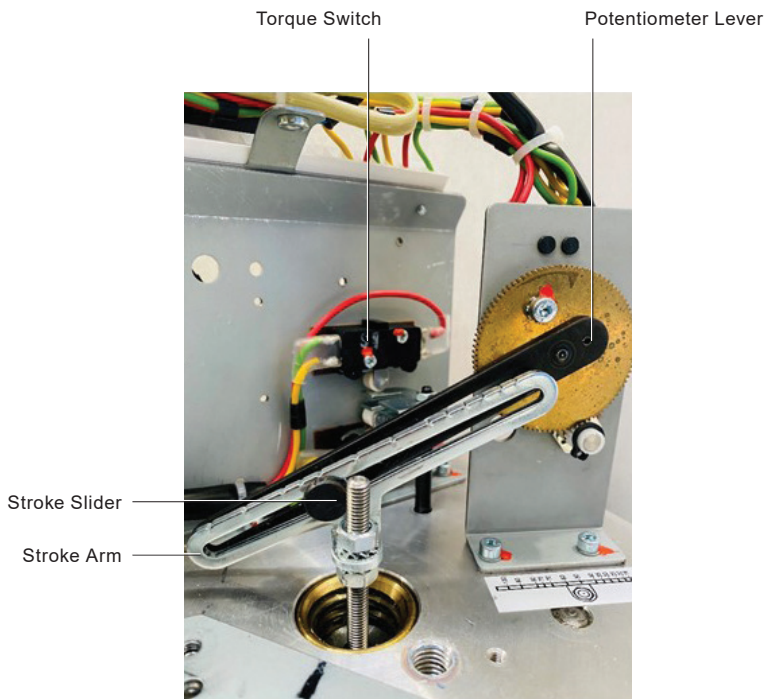

Fig. 28 8 kN+ (1798 lbf+) AEL7 Stroke Arm Arrangement
- The Stroke Arm and Potentiometer Lever should be parallel (Fig. 28)